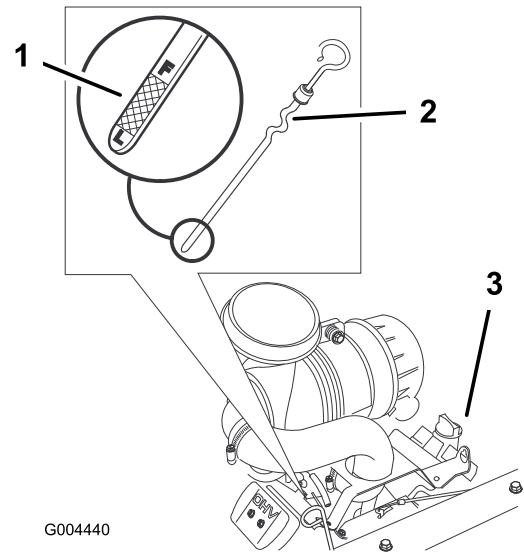

Figure 33
3. Clean around the oil dipstick (Figure 33) so dirt cannot fall into engine.
4. Pull the oil dipstick and wipe the metal end clean (Figure 33).
5. Slide the oil dipstick fully into the engine. Pull the dipstick out and look at the metal end (Figure 33). If oil level is low, slowly pour only enough oil into the filler tube to raise the level to the full mark.
9. Slowly pour approximately 80% of the specified oil into the filler tube (Figure 33).